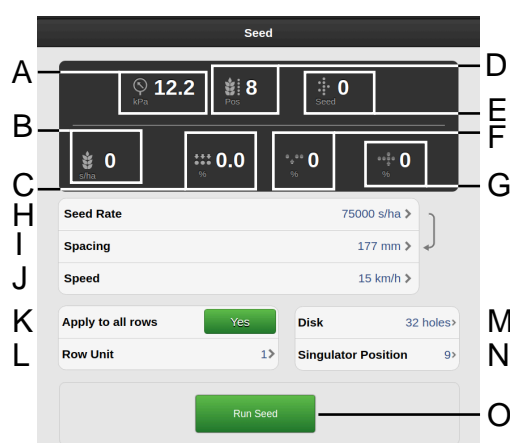

Figure 7.1
When the machine is equipped with a seed disc with more than 70 holes, read the percentage deviation from the application rate in the output quality field (D); see "Figure 7.1" and adjust the singulator dial's set value to minimise the deviation.
For a machine with electric singulation, change the value of the desired singulator position, in order to achieve a better result with fewer skips/doubles. The same applies as for manual adjustment, i.e. if there are many skips, enter a higher value for the singulator position (N); see "Figure 7.1", and if there are many doubles, add a lower value for the desired singulator position (N)